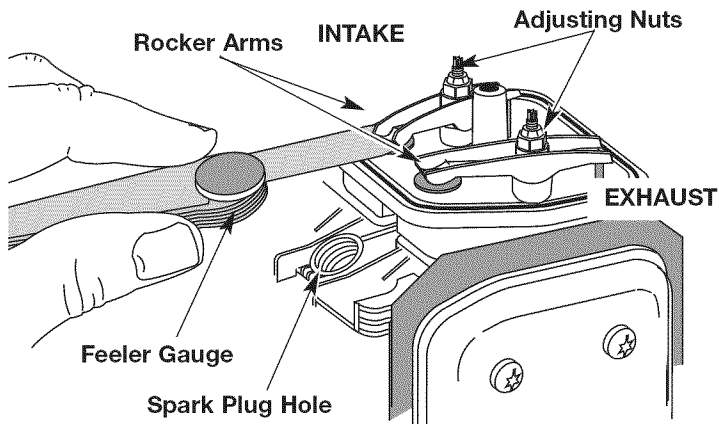

Fig. 33
- The piston is at the top of its travel. Look in the spark plug hole to view the piston (Fig. 33).
- Slide the feeler gauge between the rocker arm and the top of each valve stem. Measure the clearance between the valve stem and rocker arm (Fig. 33). Measure both the intake and exhaust valves.
The recommended clearance for both intake and exhaust is .003 – .006 in. (.076 – 0.152 mm). Use a standard automotive .005 in. (0.127 mm) feeler gauge. The feeler gauge should slide between the rocker arm and valve stem with a slight amount of resistance, without binding. See Figures 33 and 34.
- Turn the adjusting nut using a 5/16 inch (8 mm) wrench or nut driver (Fig. 33).